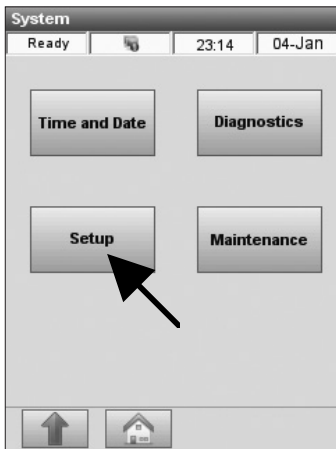

Fig. 3-5 Setup
2. Press **<Setup>** to select this function (Fig. 3-5).